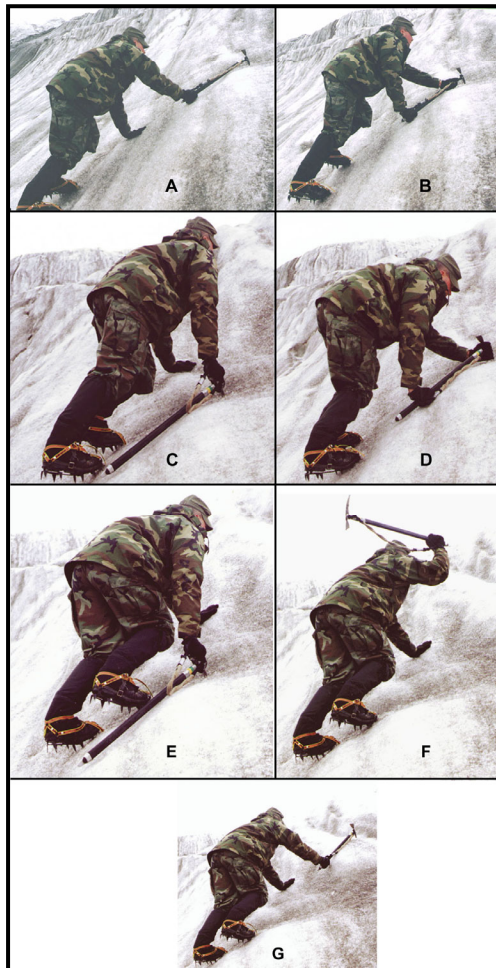

Figure 10-12. Climbing sequence.
e. **Climbing Sequence.** Using most of these positions, a single ax can be “climbed” in steps to move upslope on low-angle to near vertical terrain (Figure 10-12). Begin by positioning the feet in a secure stance and placing the ax in the hammer position as high as possible. Slowly and carefully move the feet to higher positions alternately, and move the hand up the ax shaft. Repeat this until the hand is on top of the head of the ax. Remove the ax and place it at a higher position and begin again.